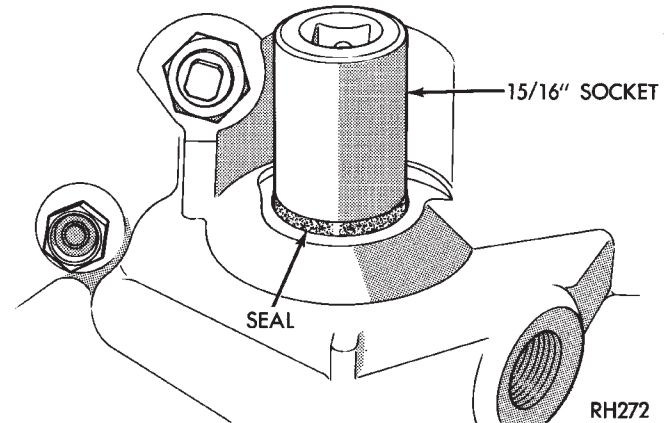

Fig. 136 Installing Manual Lever Shaft Seal
(36) Install magnet in oil pan. Magnet goes on small protrusion at corner of pan.
(37) Position new oil pan gasket on case and install oil pan. Tighten pan bolts to 17 N·m (13 ft. lbs.).
(38) Install new valve body manual shaft seal in case (Fig. 136). Lubricate seal lip and manual shaft with petroleum jelly. Start seal over shaft and into case. Seat seal with 15/16 inch, deep well socket.